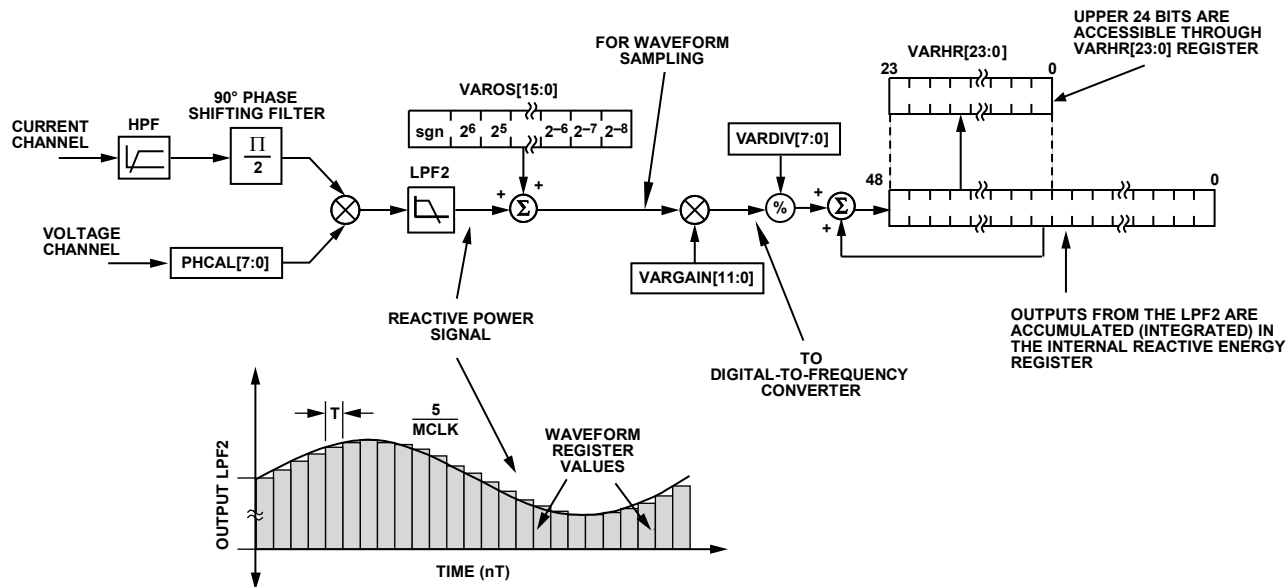

Figure 58. Reactive Energy Calculation
The instantaneous reactive power signal  $q(t)$  is generated by multiplying the voltage and current channels. In this case, the phase of the current channel is shifted by 90°. The dc component of the instantaneous reactive power signal is then extracted by a low-pass filter to obtain the reactive power information (see Figure 58).
Figure 58 shows the signal processing chain for the ADE7518 reactive power calculation. As explained in the Reactive Power Calculation section, the reactive power is calculated by applying a low-pass filter to the instantaneous reactive power signal. Note that, when reading the waveform samples from the output of LPF2, the gain of the reactive energy can be adjusted by using the multiplier and by writing a twos complement, 12-bit word to the VAR gain register (VARGAIN[11:0]). Equation 23 shows how the gain adjustment is related to the contents of the watt gain register.
The ADE7518 also incorporates a reactive power offset register (VAROS[15:0]). This is a signed, twos complement, 16-bit register that can be used to remove offsets in the reactive power calculation (see Figure 58). An offset may exist in the reactive power calculation due to crosstalk between channels on the PCB or in the IC itself. The offset calibration allows the contents of the reactive power register to be maintained at 0 when no power is being consumed.
The discrete time sample period (T) for the accumulation register in the ADE7518 is  $1.22 \mu\text{s}$  ( $5/\text{MCLK}$ ). As well as calculating the energy, this integration removes any sinusoidal components that may be in the active power signal. Figure 58 shows this discrete time integration or accumulation. The reactive power signal in the waveform register is continuously added to the internal reactive energy register.
As shown in Figure 58, the reactive power signal is accumulated in an internal 49-bit signed register. The reactive power signal can be read from the waveform register by setting the WAVMODE register (0x0D) and setting the WFSM bit in the Interrupt Enable 3 SFR (MIRQENH, 0xDB). Like the current and voltage channel waveform sampling modes, the waveform data is available at a sample rate of 25.6 kSPS, 12.8 kSPS, 6.4 kSPS, or 3.2 kSPS.